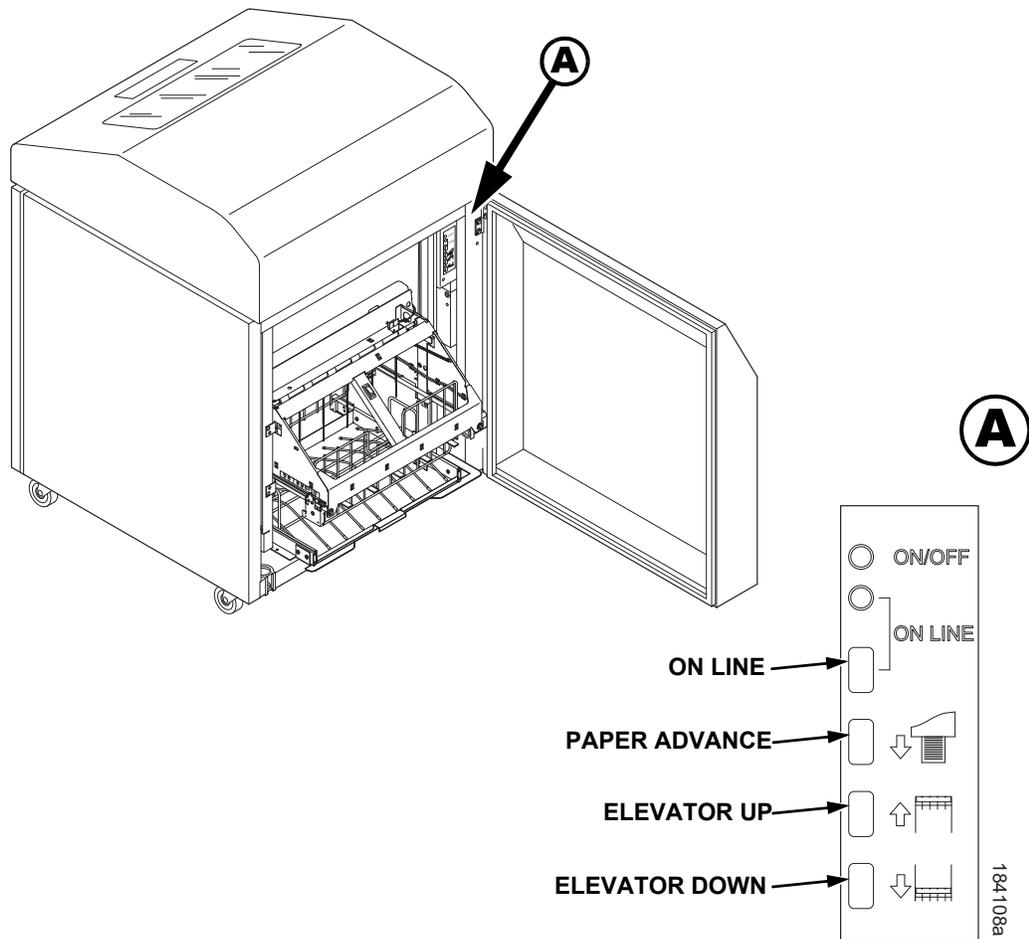

Figure 2. The Rear Control Panel
2. On the rear control panel, press the **ONLINE** key to take the printer offline. (Figure 2.)
3. Press the **ELEVATOR UP** key and wait for the elevator assembly to reach the top of its travel. (Figure 2.)